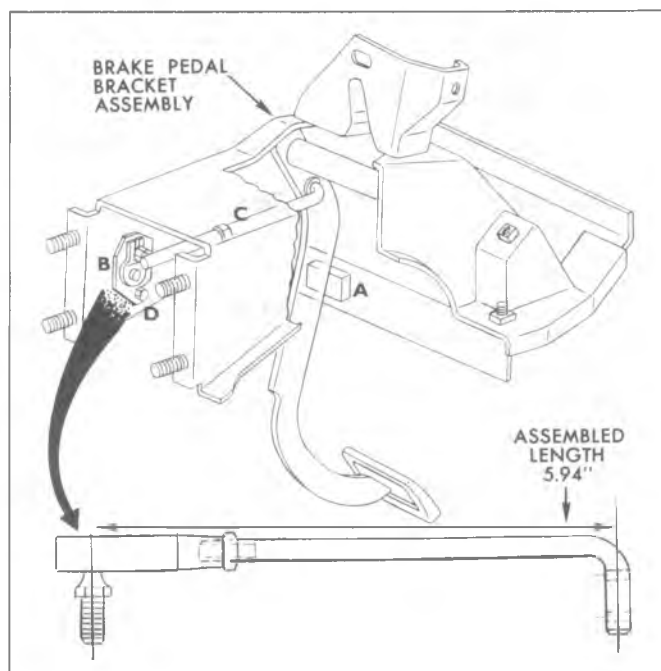

Fig. 42—Travel Switch Adjustment
Brake Travel Warning Switch—(Fig. 42)
2. Check the length of the failure switch push rod to see that it is as described in Figure 42.